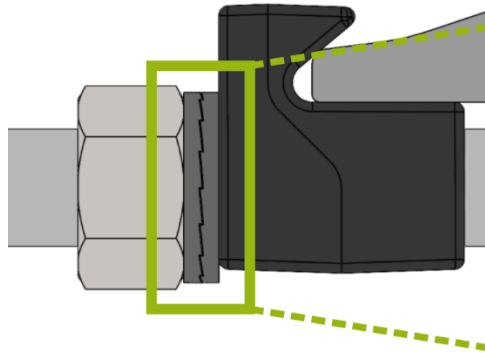

Figure 1 – Nord-Lock washer
c) Inspect the Nord-Lock washer for signs of damage. Undamaged washers can remain in use. Damaged washers are to be removed, and a new washer inserted (if you do not have a new washer available, reuse the existing washer and report this to your SM(S) so that they can arrange for it to be replaced within 4 weeks). When reusing an existing washer, make sure to fit the two parts with the matching cam faces against one another as shown in green box within Figure 1 below. The narrower serrations should be on the outside faces of the assembled washer.